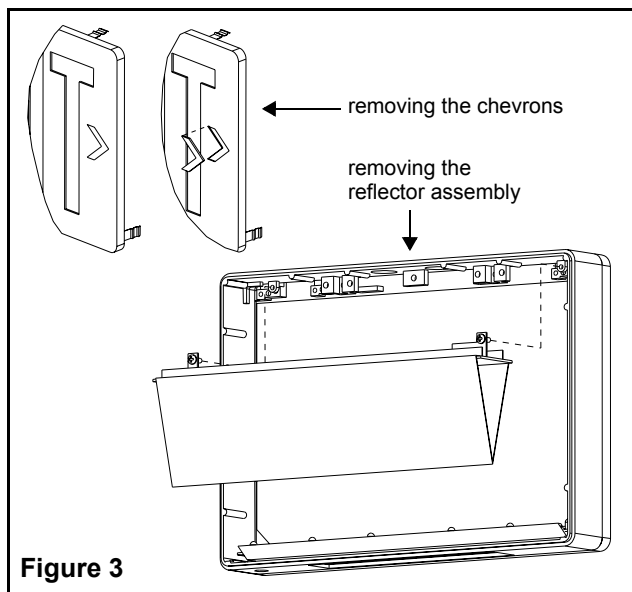

Figure 3
- g. In order to access the knockouts of the frame, first remove the top reflector assembly by removing the reflector assembly screw(s) (see fig. 3); there are two screws to remove for AC/DC models, and there is only one to remove for Self-Powered models.
- j. To knock out chevrons (see fig. 3), remove colored lens(es) by warping center of lens and pulling out from the securement clips. Support door chevrons with two blocks of wood, strike chevron knockouts from the inside with a hammer and screwdriver. To reinstall colored lens(es), warp to slide under securement clips. Press securement clips tightly onto lens.
- a. Determine the proper knockouts in the exit back cover for mounting. In order to access the knockouts, you may need to remove the top reflector assembly by removing the reflector assembly screw(s) (see fig. 3); there are two screws to remove for AC/DC models, and there is only one to remove for Self-Powered models.